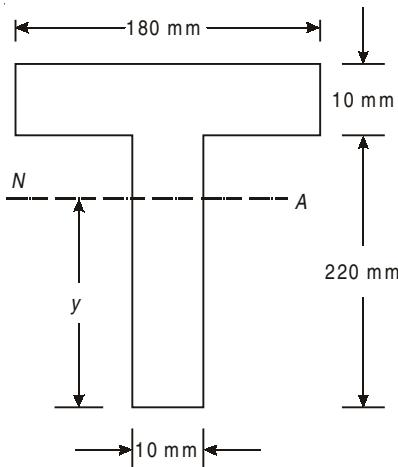

Fig. 1
1. A beam having T-section (Fig. 1) with flanges ($180 \text{ mm} \times 10 \text{ mm}$) is subjected to sagging bending moment 15 kN-m . Determine maximum tensile stress and maximum compressive stress. (UPTU : 2012–2013)